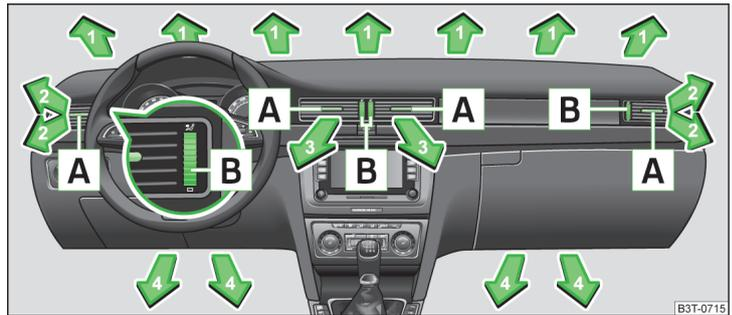
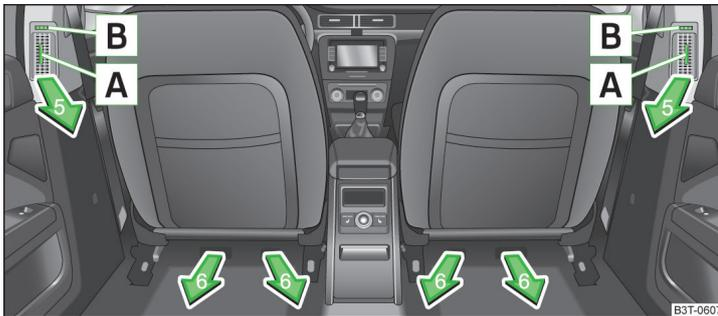

Fig. 123 Air vents at the front
Fig. 124 Air vents at the rear
The direction of airflow can be adjusted using the air outlet vents **2**, **3** » Fig. 123 and **5** » Fig. 124 - the outlets can be opened and closed individually.
- ▶ To adjust the height of the air flow, turn the horizontal vanes up or down with the movable adjuster **A** » Fig. 123 » Fig. 124.
- ▶ To change the lateral direction of the air flow, turn the vertical fins with the movable adjuster **A** » Fig. 123 or » Fig. 124 to the left or right.
- ▶ Turn the knob **B** » Fig. 123 and » Fig. 124 to position **2** to fully open the air outlet.
- ▶ Turn the knob **B** » Fig. 123 and » Fig. 124 to position **0** to close the air outlet.
| Settings | Control dial settings » Fig. 125 on page 112 | | | Button » Fig. 125 on page 112 | | Air outlet vents 2 » Fig. 123 on page 110 |
We recommend that you leave the air outlet vents 3 » Fig. 123 on page 110 in the opened position.